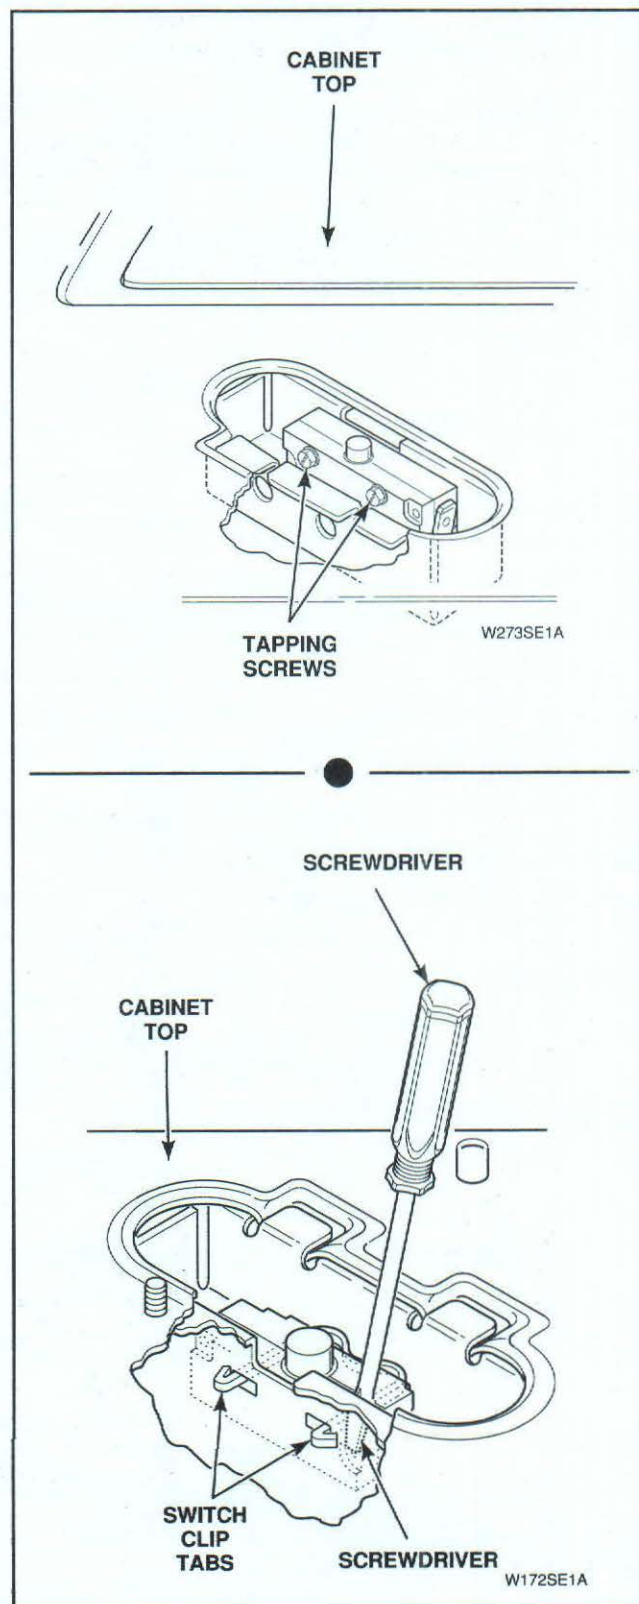

Figure 30
- Place blade of a small screwdriver, or similar device, between front of switch and switch holder, *Figure 30*.
- Slide blade to the left to disengage switch clip tab holding switch to switch holder, *Figure 30*.
- Using a $\frac{13}{16}$ " open-end wrench retract tapping screws securing switch to switch holder, *Figure 30*.
- Place switch assembly into switch holder, *Figure 30*.